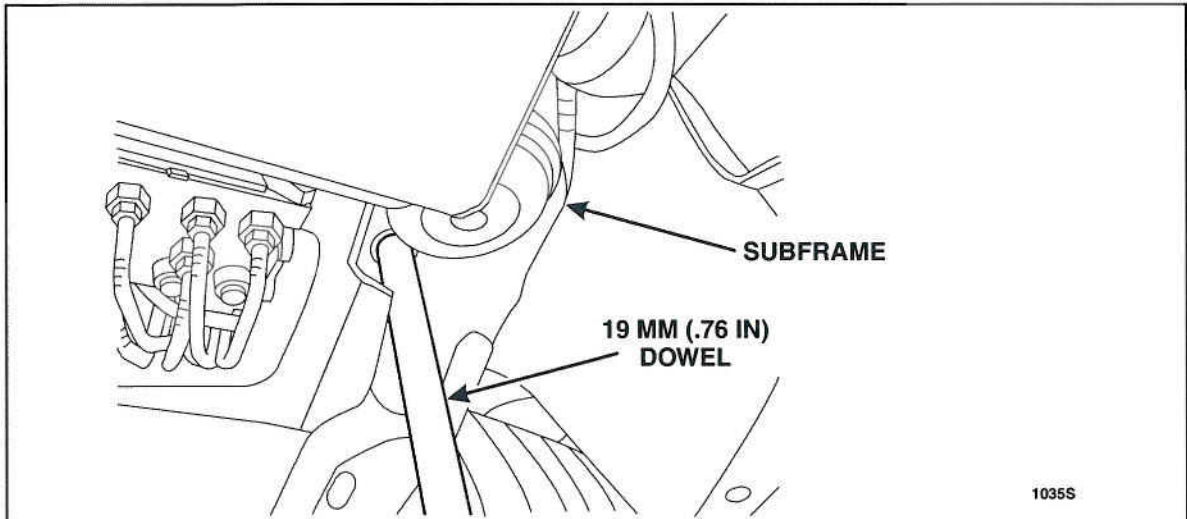

FIGURE 30
20. Using a 19 mm (0.76 in) dowel, check the front subframe alignment. See Figure 30.